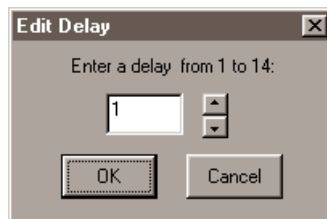

Figure 5.2. Use this dialog box to change the propagation delay of one or more devices.
- 2 Select the **Edit > Set Prop Delays** to display the dialog box shown in Figure 5.2.